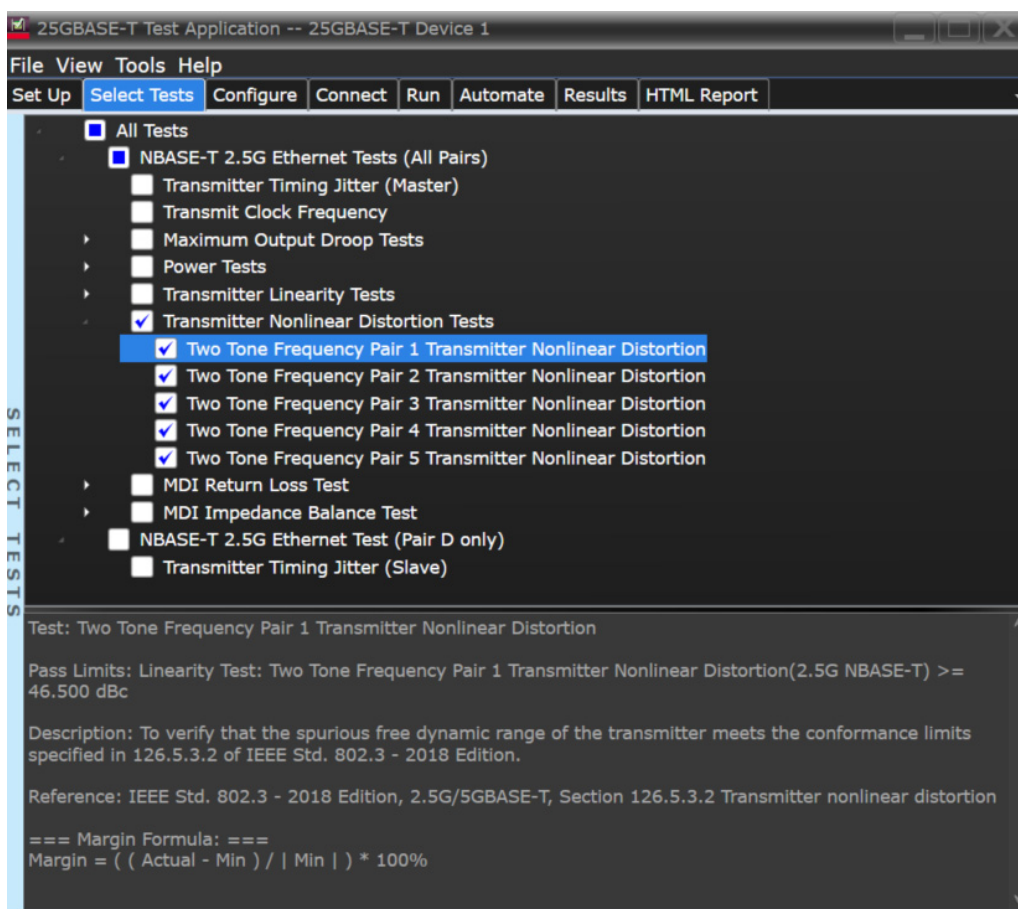

Figure 40 Selecting Transmitter Nonlinear Distortion tests
- 19 Click the **Select Tests** tab and check the tests you want to run, as shown in Figure 40. Check the parent node or group to check all the available tests within the group.
- 16 Click the **Select Tests** tab and check the tests you want to run. Check the parent node or group to check all the available tests within the group, as shown in Figure 40.
Figure 40 shows the tests available under the **Transmitter Nonlinear Distortion tests** group of the **Select Tests** tab.